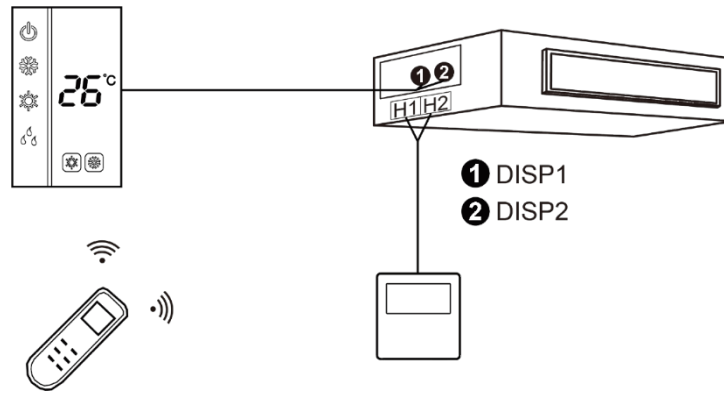

Fig. 5.4.3
- 3) The wired controller and the receiver panel can be installed at the same time. When used with a remote control, both the wired controller and the receiver panel can receive signals, as shown in Fig. 5.4.3.